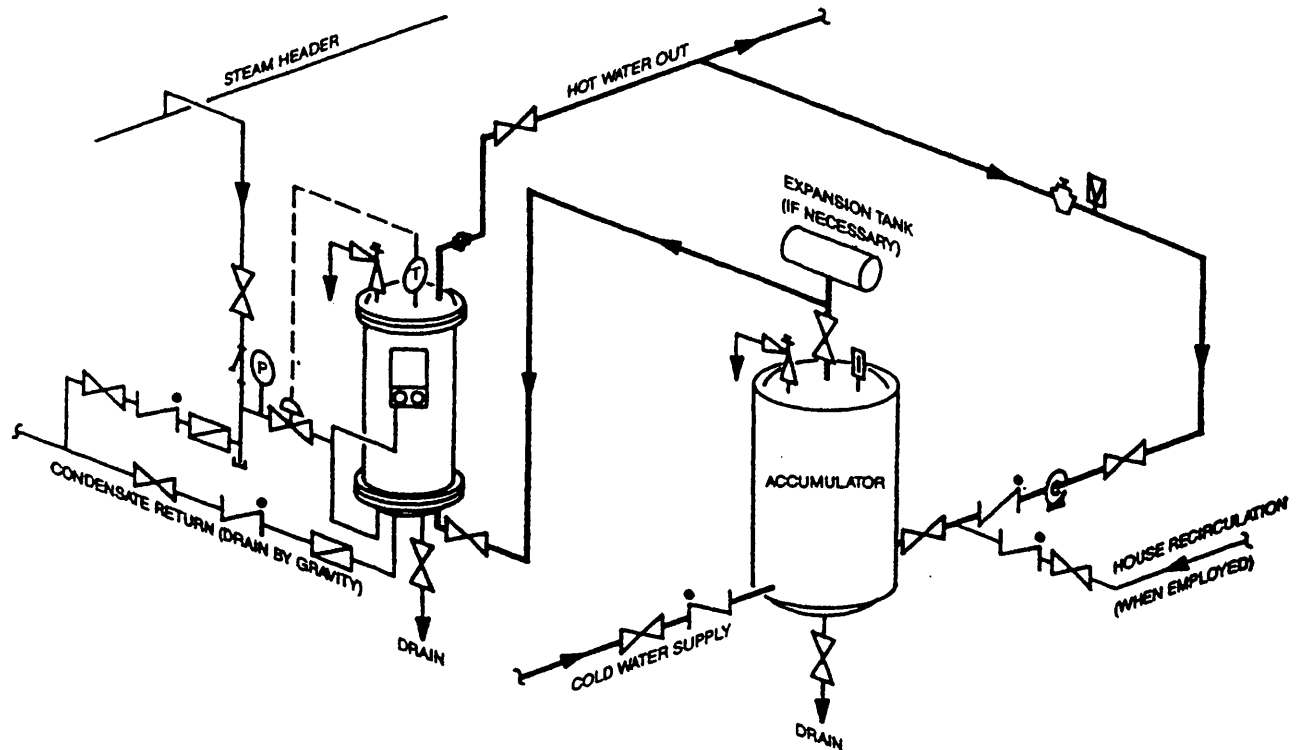

Figure HE-104-4 -- Piping Connections for a Single Heater used with an Accumulator
- Single Heater used with an Accumulator -- Figure HE-104-4